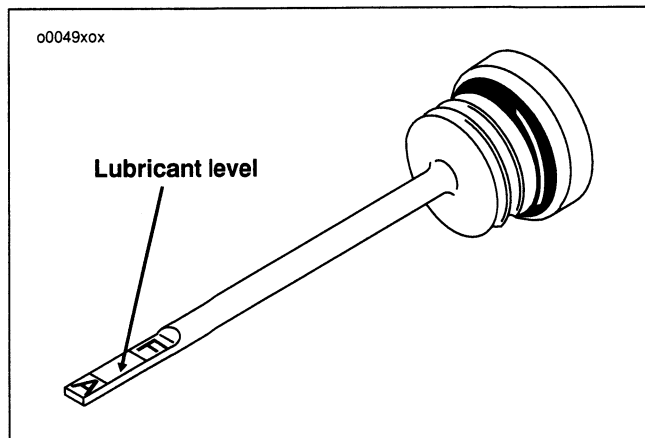

Figure 43. Transmission Lubricant Dipstick
See Figure 43. The transmission lubricant level should be checked monthly.
1. See Figure 43. Remove the threaded filler plug.